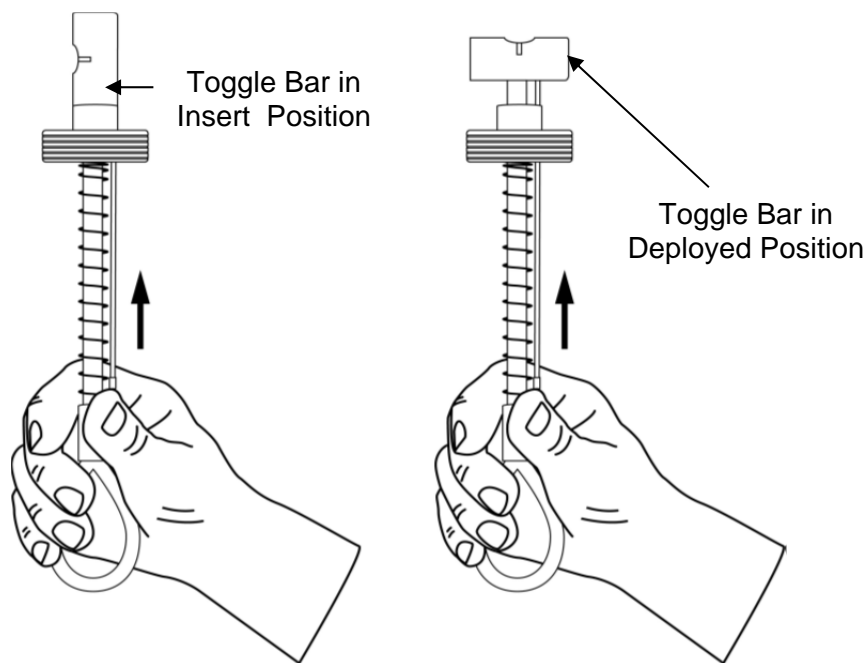

Figure 3 – ToggleLok With Toggle Bar in Insert Position and Deployed Position
- Ensure the toggle bar is placed in the hole in the insert position. See Figure 3.
- The deployed position of the Toggle Bar is at right angles to the main cable. Grasp the anchor loop in one hand, and with the other, turn the toggle bar so it points straight out, in line with the main cable. When the machined flat on the end of the toggle bar engages the flat on the bottom of the hole plug, the Toggle Bar will remain in the insert position. See Figure 3.